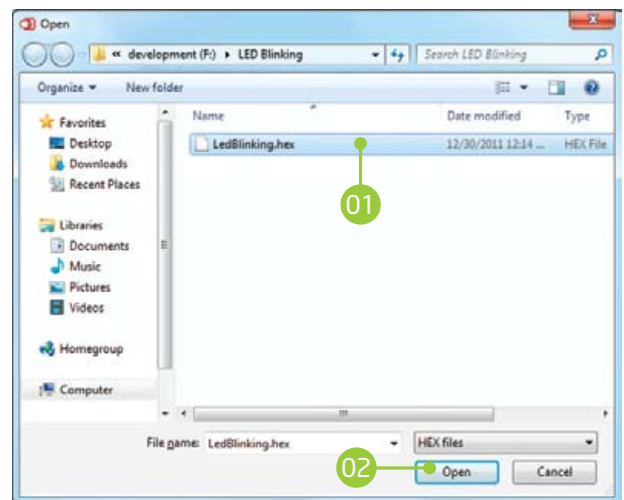

Figure 1-3: Selecting HEX
- 01 Click the **“Browse for HEX”** button and from a pop-up window (**Figure 1-3**) choose the .HEX file which will be uploaded to MCU memory.